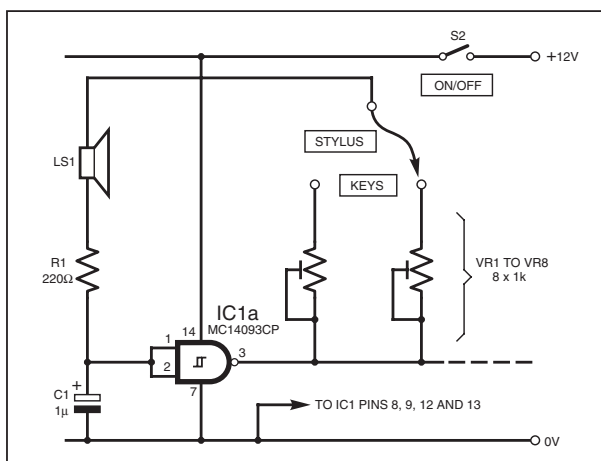

Fig.3. Circuit diagram for the basic StyloQIC.
**T**HE circuit diagram shown in Fig.3 was inspired by the *EPE StyloPIC* design (July '02 issue) and is a minimalist “Stylophone” that is “QIC” to build!